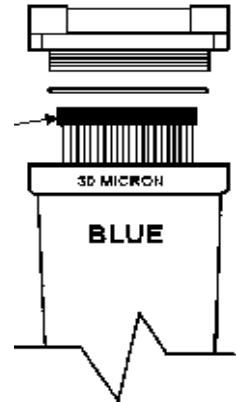

Figure 3 - Prefilter
- Shut down the system and fully open the *pressure control valve* (I) by turning it counterclockwise.
- Empty the prefilter (B) and wash it using a normal dish-washing detergent.
- Reinstall the filter cartridge (Fig. 3).
- Prepare a container (X) with 5 liters of fresh, non-chlorinated water or water produced by the watermaker.
- Connect the *booster pump* (A) to the container (X) with a piece of hose.
- ⇒ The prefilter O-rings are correctly placed (fig. 3);